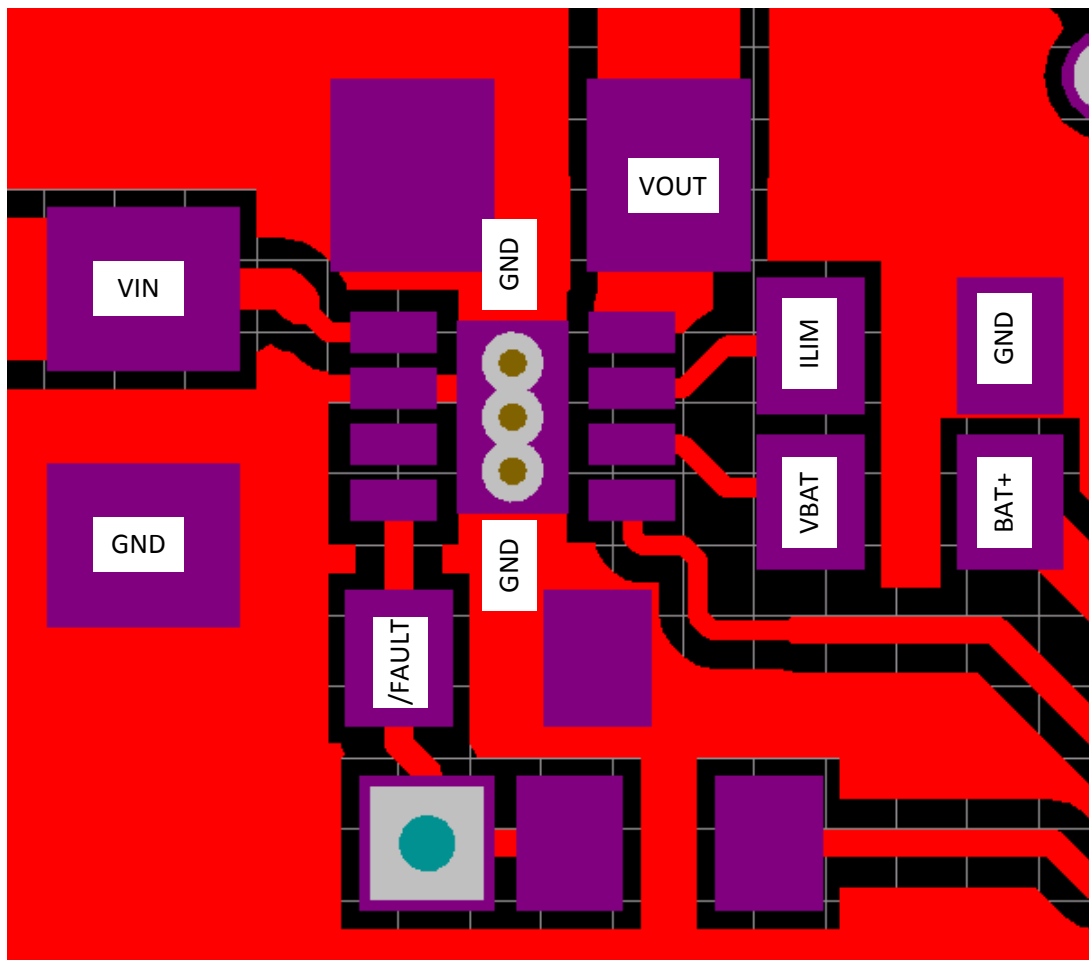

Figure 24. Layout Example
- This device is a protection device, and is meant to protect down-stream circuitry from hazardous voltages. Potentially, high voltages may be applied to this device. It has to be ensured that the edge-to-edge clearances of PCB traces satisfy the design rules for high voltages. See Figure 24.